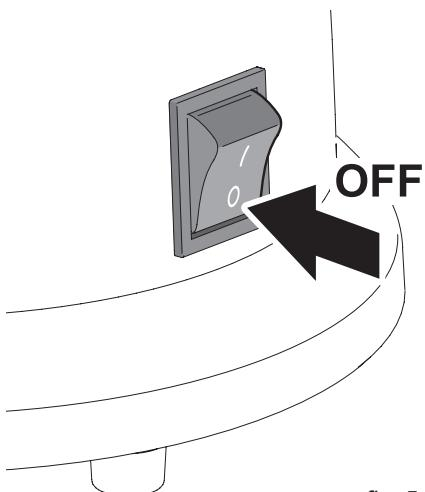

fig. 5.7
- To switch the machine off, turn the main switch to position **OFF** (fig. 5.7).